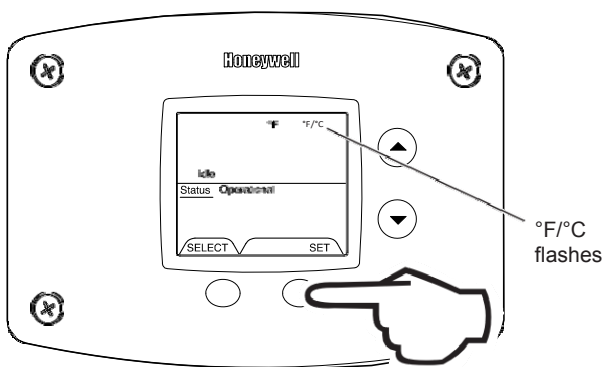

Fig. 21
2. Press 'SET' button to change temperature format. Symbol °F/°C will flash (Fig. 21).